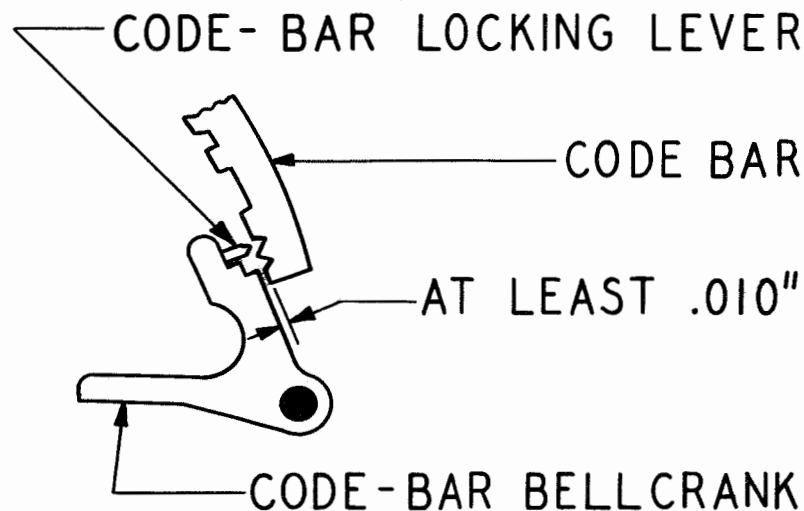

Figure 30
2.43 Mainbail Adjusting-screw (Final Adjustment): (Motor moved out of the way) There shall be a clearance as shown in Figure 30 between the front edges of the codebars and the adjacent edges of the codebar bellcranks.